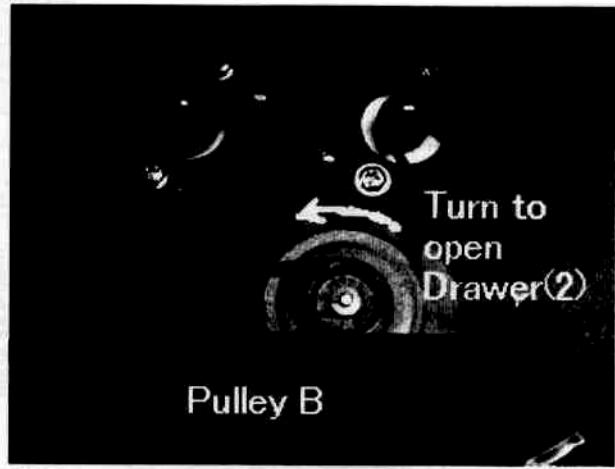
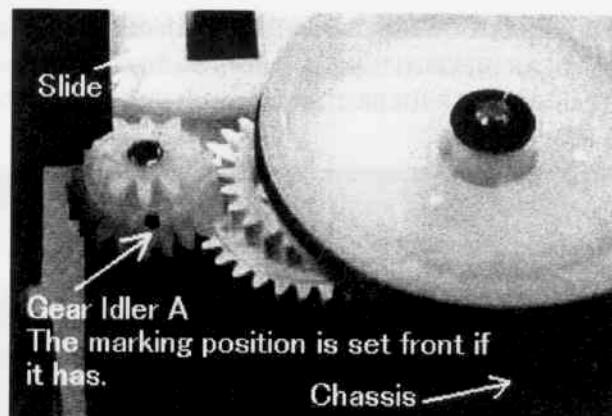

Fig.3
Fig. 11
- 1) Remove 6 SCREWS(115) from COVER(23).
- 2) Turn PULLEY B(32) anti-clockwise and pull DRAWER(2) block. The DRAWER block is easily pulled out.(See Fig.3)
10) When you assemble DRAWER block with CHASSIS, it is important that linear gears in CHASSIS gang well with GEAR IDLER A(39). While GEAR IDLER A isn't ganged well, turn PULLEY B(32) (Fig. 3) a bit and make them ganged. (Take care not to turn it much. GEAR IDLER A should be in +/- 45 degrees from the center.) (See Fig. 11)
11) Push in two hooks at the both sides as they sound click. (You may fix the right side hooks first before you move Drawer block inside in item 9).
12) Put COVER(23) and mount six SCREWS(115).